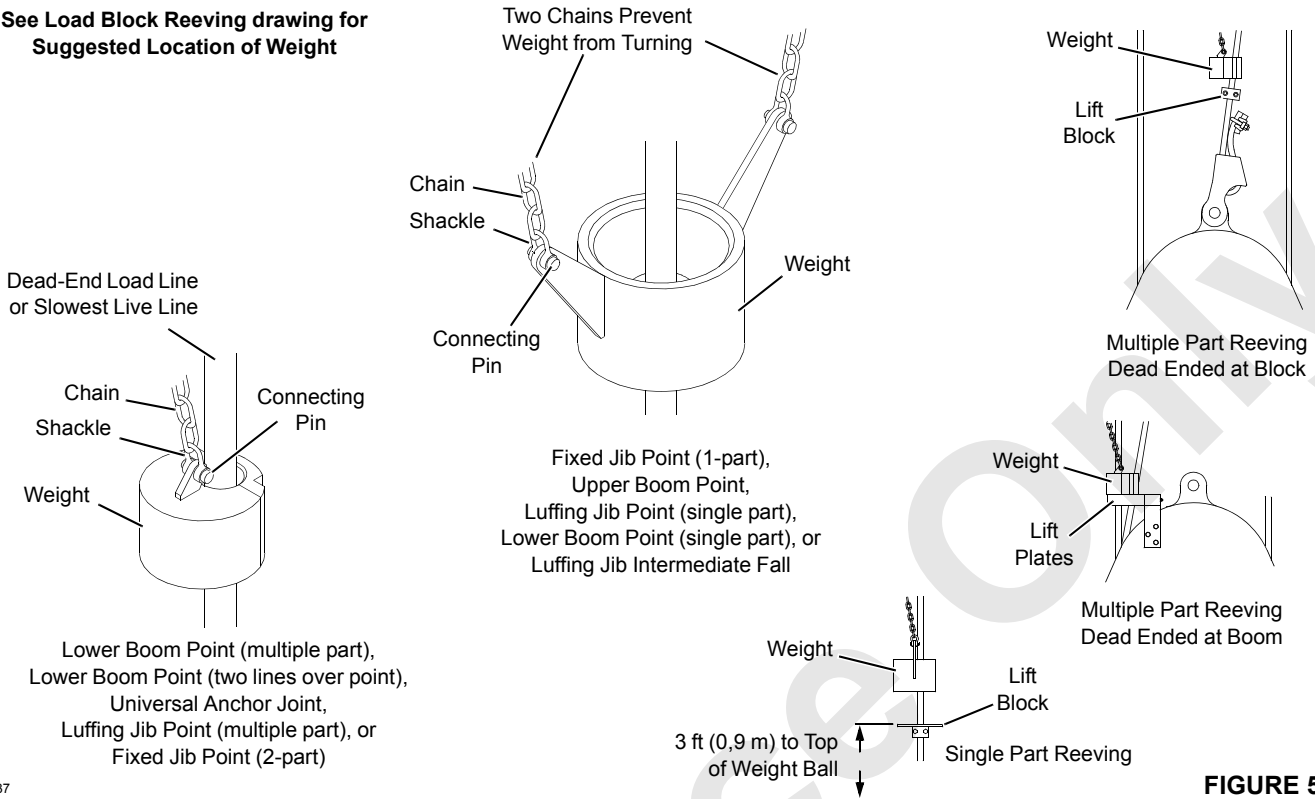

FIGURE 5-7
- Weight freely suspended by chain from each limit switch actuating lever (weight encircles load line as shown in Figure 5-7).
- Lift block fastened to load line or lift plates fastened to load block (see Figure 5-7).
See Figure 5-7 for installation of the weights.